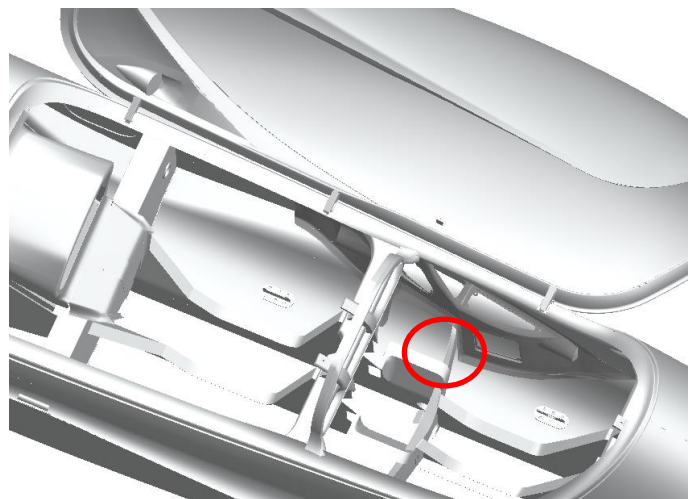

Figure 2: Position of the smoke relay, left: XA41 ; right: XA42
1. Identify the smoke relay on the RH seat frame. Refer to Figure 2.
1. Identify the smoke relay on the RH side of the lateral frame under the rear seat. Refer to Figure 2.